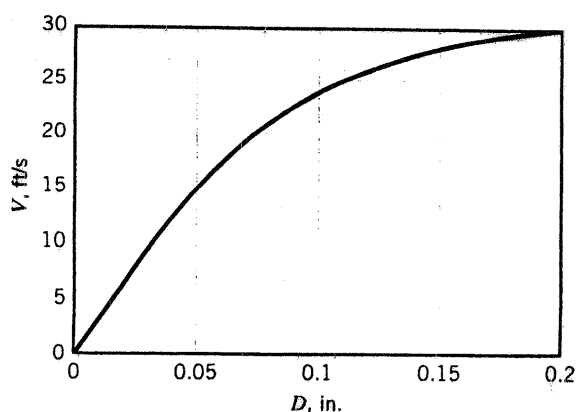

FIGURE P3.105
3.105 (See "Incorrect raindrop shape," Section 3.2.) The speed, V , at which a raindrop falls is a function of its diameter, D , as shown in Fig. P3.105. For what sized raindrop will the stagnation pressure be equal to half the internal pressure caused by surface tension. Recall from Section 1.9 that the pressure inside a drop is $\Delta p = 4\sigma/D$ greater than the surrounding pressure, where σ is the surface tension.
Thus, there are 2 unknowns, D and V , and 2 equations, Eq. (1) and Fig. P3.105. The solution is given by the intersection of these two D - V graphs as shown below.